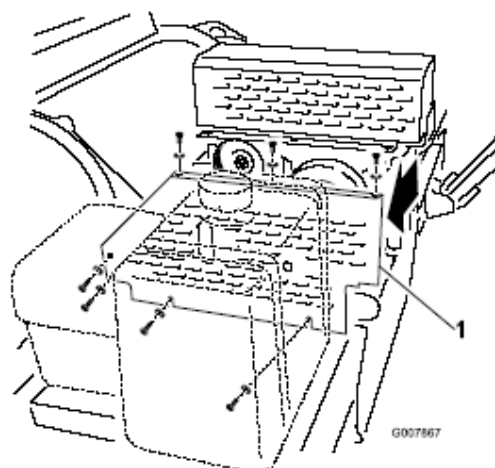

Figure 54
1. Remove the belt cover (Figure 54).